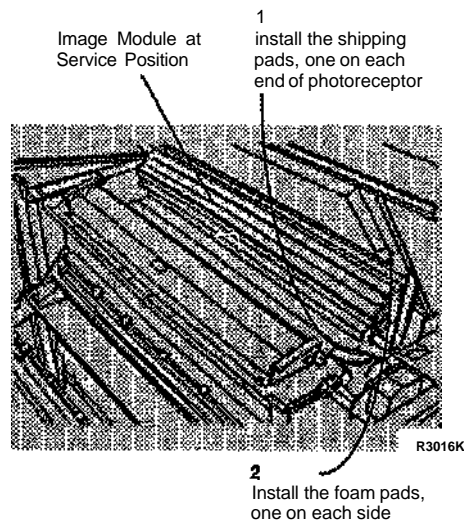

Figure 3. Installing the Shipping Pads
17. (Figure 3): Install the shipping pads.